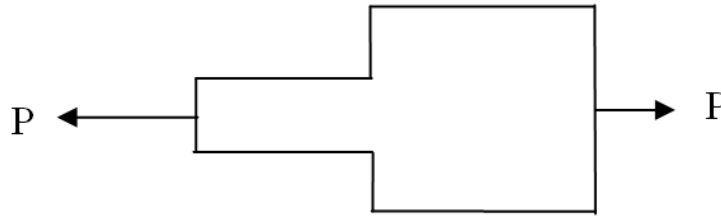

Figure Q3 (a)
3. (a) (i) Explain stress concentration concept using flow lines analogy. Also, suggest methods of reducing stress concentration effect for the plate shown in Figure Q3 (a). Please support your answer with sketches.